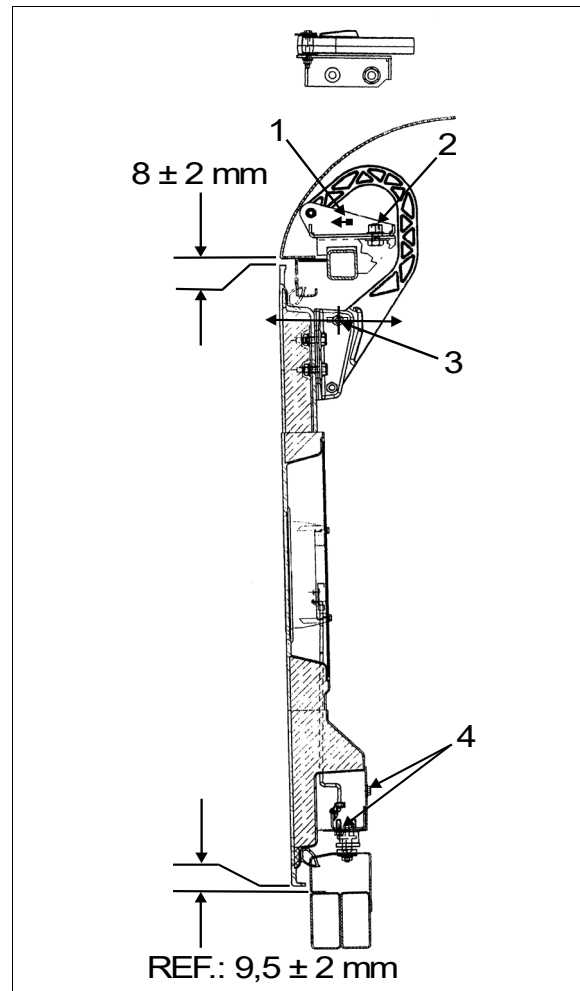

FIGURE 72: DOOR HINGE
2. Loosen nut (2, Figure 72).
3. Move part (1, Figure 72), as close as possible to exterior of coach, so as to have enough clearance for proper door opening.
4. Tighten nut (2, Figure 72).
5. Loosen nut (3, Figure 72). Hinge allows the door to be shifted "IN or OUT".
6. Adjust door panel to have the same gap space as neighboring panels or refer to Figure 52 for specified gap space. Only if necessary, use the adjustment allowed by moving part 1, Figure 72.